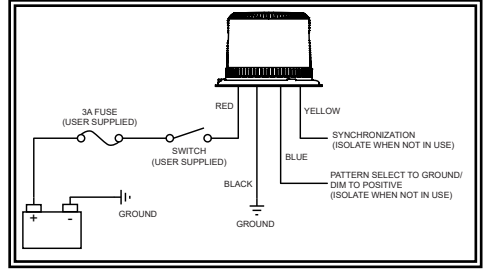

Figure 3
4. Connect the power wires as shown in the wiring section (see Figure 3).
The wiring configuration is shown in Figure 3. All wiring should be a minimum of 18AWG. A switch may be used to control the on/off function. The black (negative) wire is connected to the battery ground.